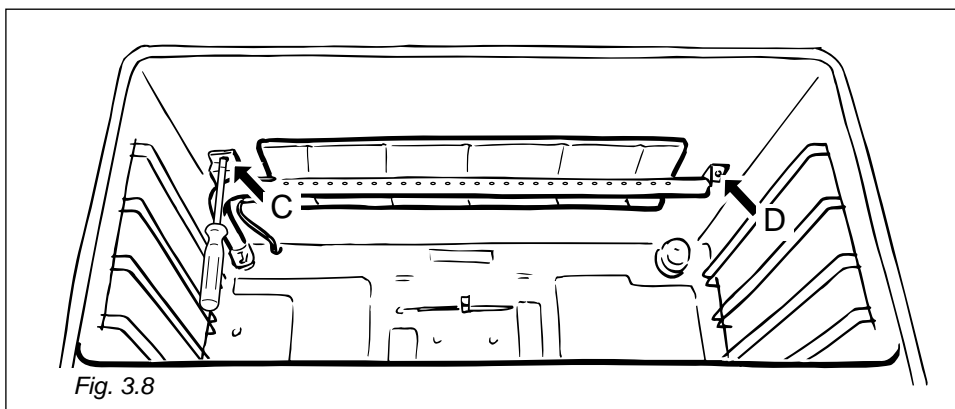

Fig. 3.8
- Unscrew and remove the burner securing screw 'C' (fig. 3.8).
- Slacken screw 'D' (fig. 3.8).